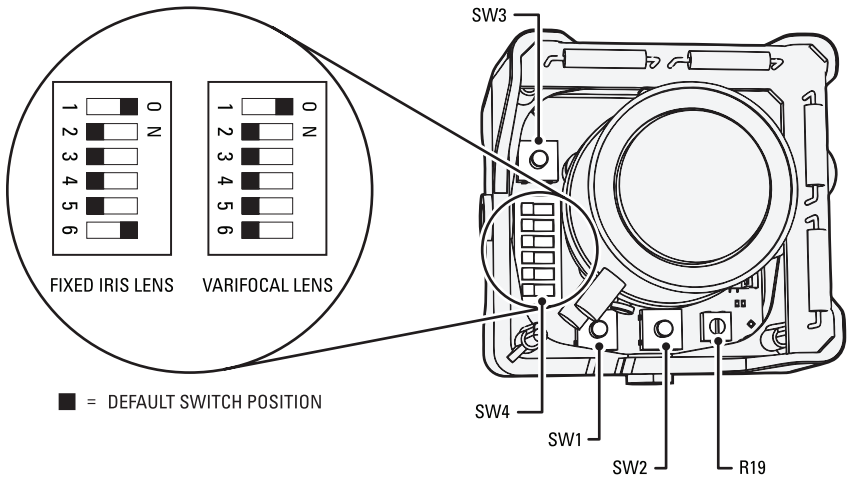

Figure 10. Adjusting the IS110-DN/CH Series Camclosure
Refer to Figure 10 to adjust the IS110-DN or IS110-CH model.
To adjust the auto iris DC-drive level (refer to Figure 10 on page 20):
2. Select the camera to synchronize. Use buttons SW1 and SW2 to synchronize the camera to the reference camera (refer to Figure 10 on page 20). SW1 increases vertical phase; SW2 decreases vertical phase.
To manually correct defective pixels (refer to Figure 10 on page 20):